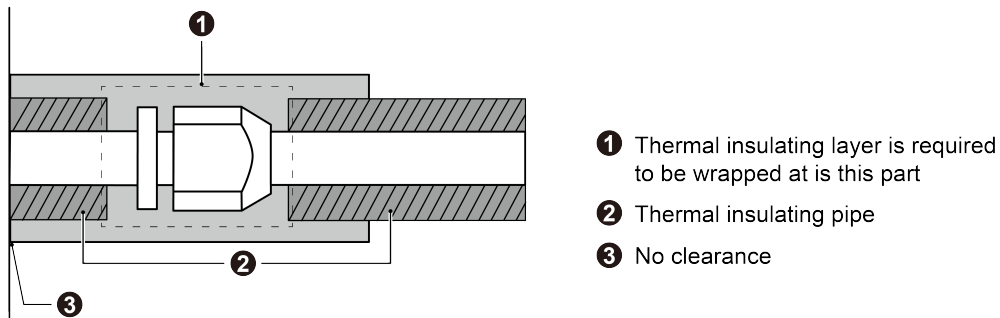

Fig.3.4.8
- 2) Joints at indoor and outdoor units should be wrapped with insulating material and leave no clearance between pipe and wall. See Fig.3.4.8.